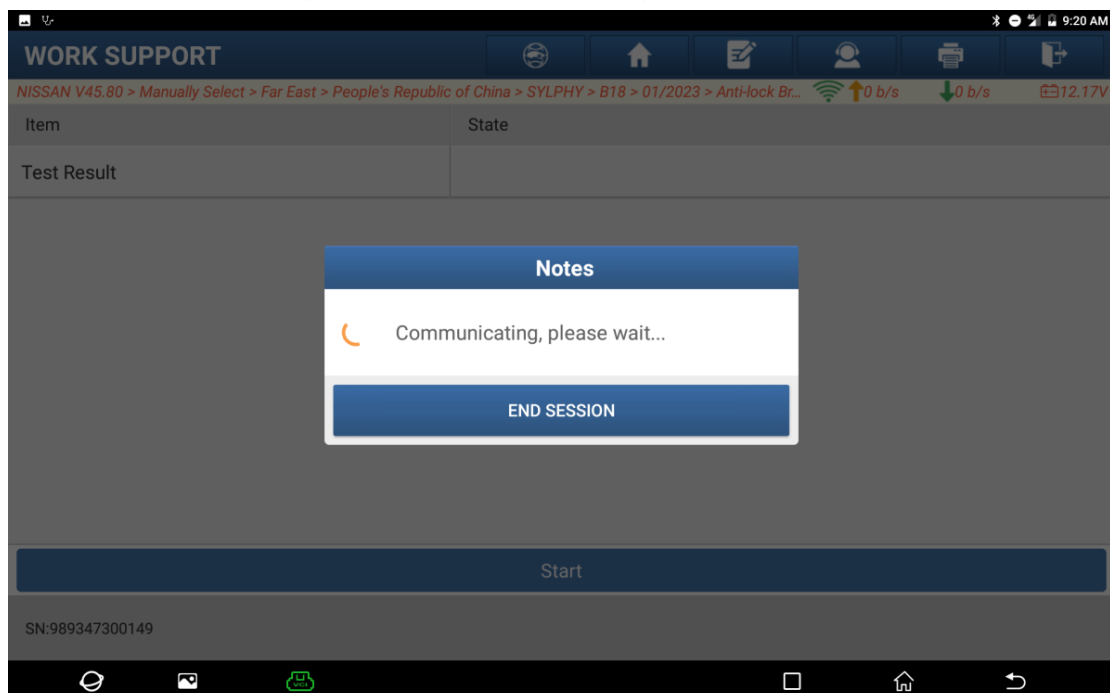

Figure 8
8. At this time, the steering angle sensor adjustment is in progress. Do not touch the steering wheel (as shown in Figure 8).